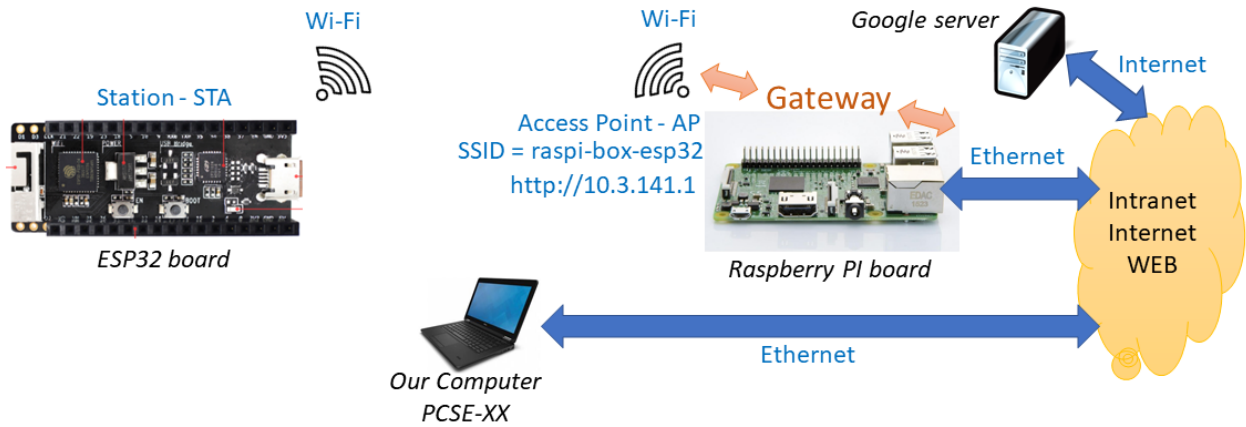

FIGURE 1.1 – Network architecture.
We want to connect our ESP32 board to access the internet, for example the Google site. To do this, we must connect our ESP32 board to an Access Point (AP) as we would do for a box at home. The Raspberry PI board will act as a box and also a Gateway. Indeed, the Raspberry PI is configured as a gateway between WIFI (Access Point mode) and the Ethernet connection connected to the Intranet and the Internet. However, it will be necessary to know the name of the Access Point and the password. The SSID (Service Set Identifier) of the Raspberry PI board (Gateway) is *raspi-box-esp32*. The figure 1.1 summarizes the network architecture that we want to implement. It will also be possible to access our local computer if we know its IP address and if it is connected to the network.